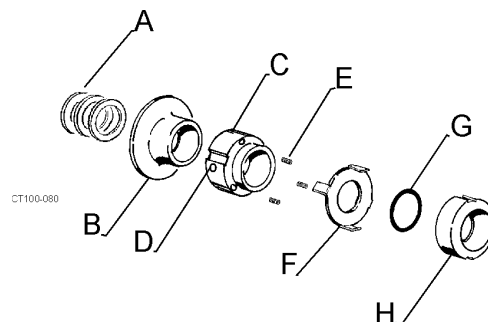

Figure 25 - Type 1 Seal Items
4. Remove deflector. (Figure 25, item B).
5. Loosen set screws (2) (Figure 25, item D) in spring retainer (Figure 25, item C) and slide retainer and washer (Figure 25, item F) off shaft. Save springs (3) (Figure 25, item E).
- Remove O-ring, then lift rotary seal off shaft. (Figure 25, items G and H).